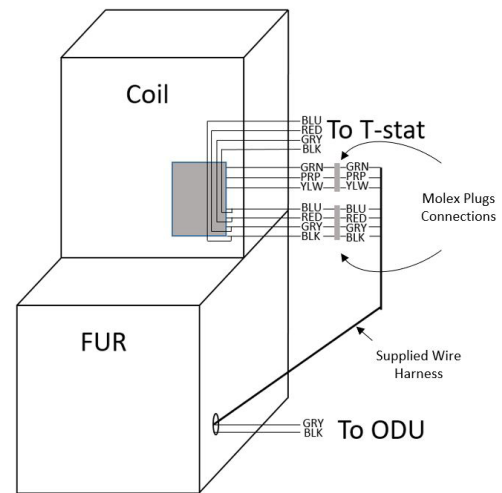

Figure 21
8. View Figure 21 for reference of Wire Harness Setup.